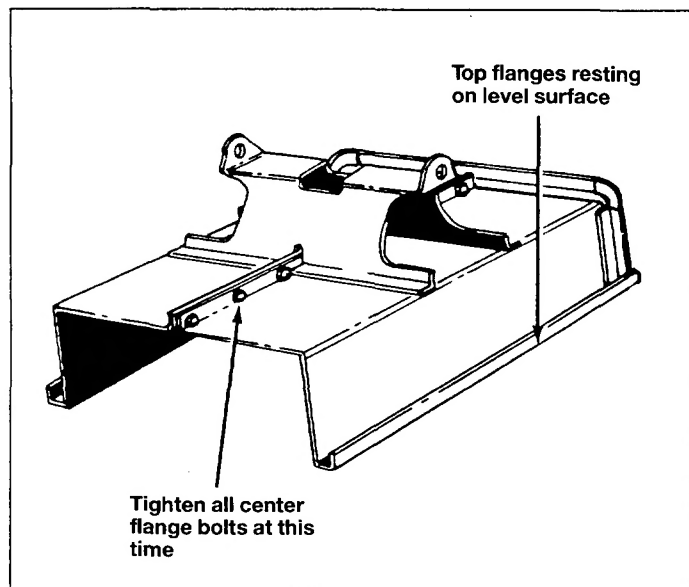

Fig. 6
11. Place cart down, so that it rests on top flange, as shown in figure 6. Tighten bolts in center flanges, as stated in step 4.